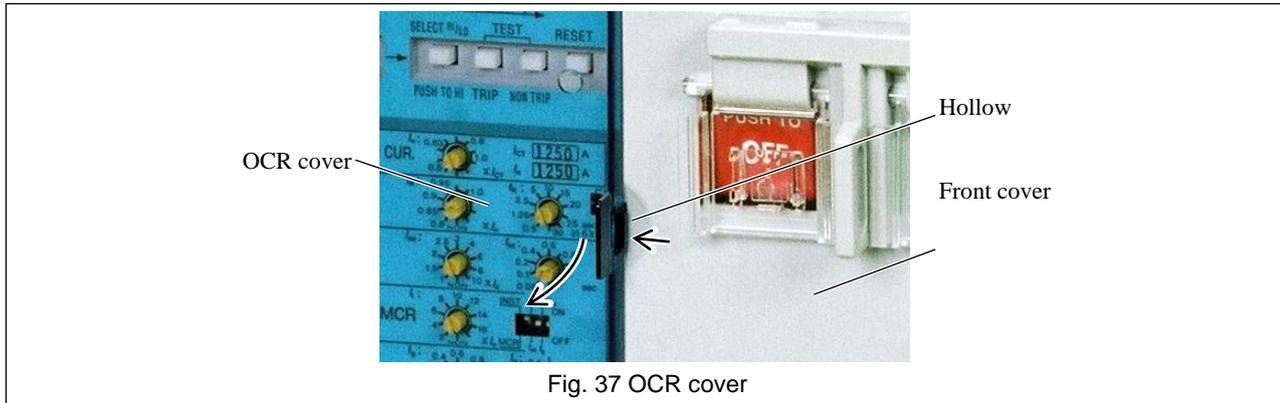

Fig. 37 OCR cover
- 2) Push the right end of the OCR cover to the left at the hollow on the front cover to unlatch and open the OCR cover. See Fig. 37.